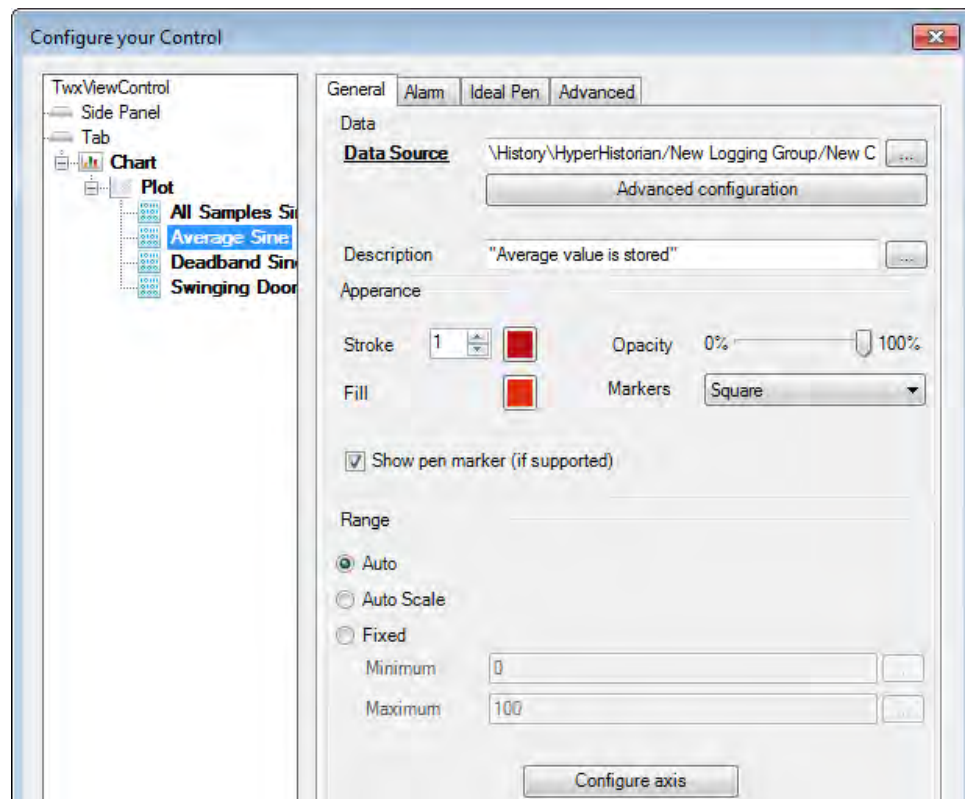

Figure L3.11 - Square Marker Selected
3. Select markers for each pen. Figure L3.11 shows a Marker selection of Square for one of the pens.